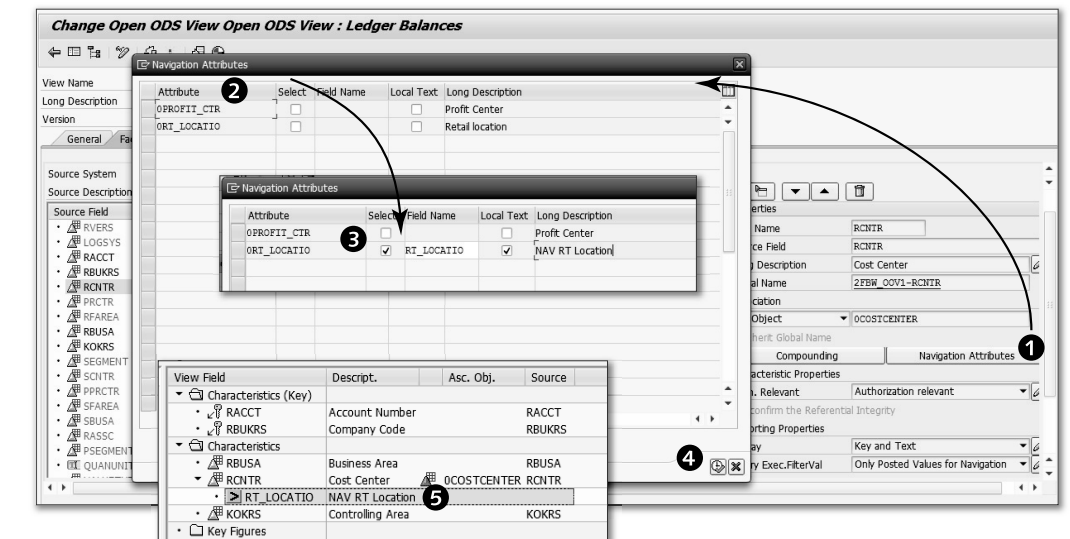

Figure 6.84 Adding Navigation Attributes
You know from Chapter 3 that navigational attributes can be configured for Info-Object of type characteristics. Here, OCOSTCENTER has the type characteristics, and a few navigational attributes are defined for this InfoObject. While designing an OOV, SAP BW allows you to include navigational attributes so that it can be available while analyzing data on the OOV. To do this, click on the NAVIGATION ATTRIBUTES button as shown in (1) of Figure 6.84.